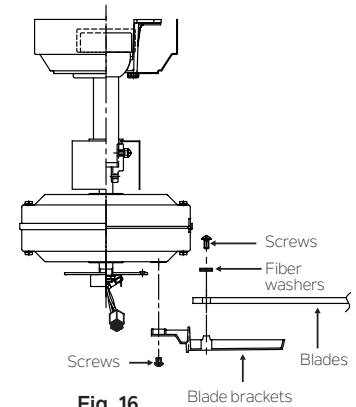

Fig. 16
Step 1. Attach a blade to a blade bracket using the screws and fiber washers provided. (Fig. 16)
Step 2. Attach each blade assembly to the motor using the “Pre-Installed” mounting screws in the blade bracket. (Fig 16)